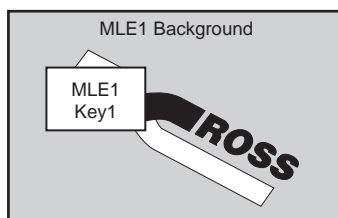

Figure 4.8 MLE 1
1. Set up **MLE 1** with a background and a key (**Figure 4.8**).